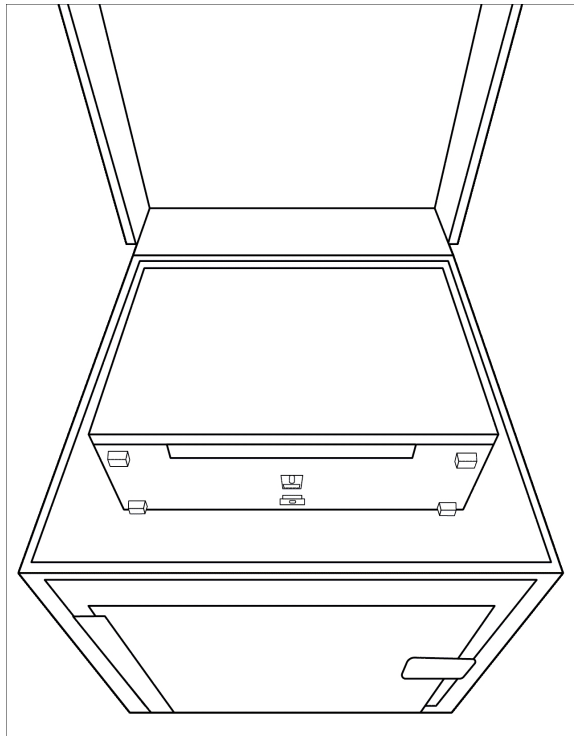

Figure 3-4. Examining the final position of the voting station from the front
6. Push the voting station back until the ballot cutout is covered and the unit can no longer be moved further back. Ensure when examining from the front that the voting station is in its final position (Figure 3-4).